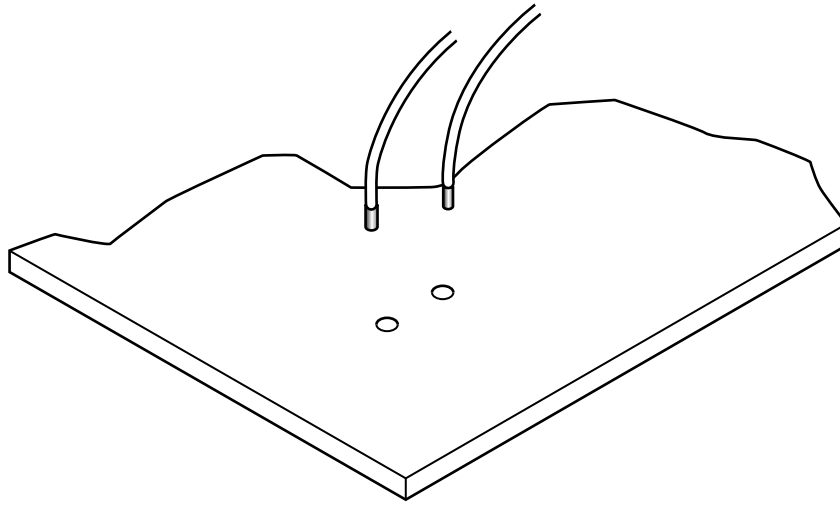

Fig. 6
- (ii) Fig. 6 shows part of a PCB where the wires from a sensor enter the board. Use notes and sketches to show **one** method of strain relief for the wires.